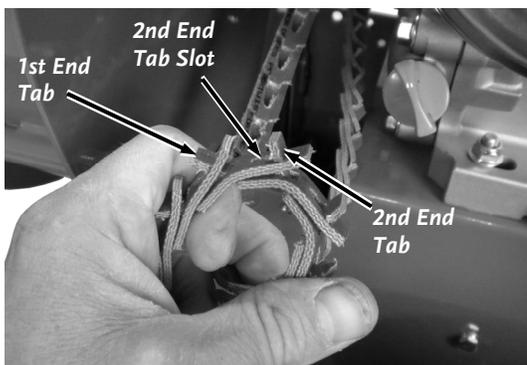

Figure 52
- c. While squeezing the Belt together in one hand, twist and insert the 2nd End Tab into the 2nd End Tab Slot, using your other hand (**Figure 52**).